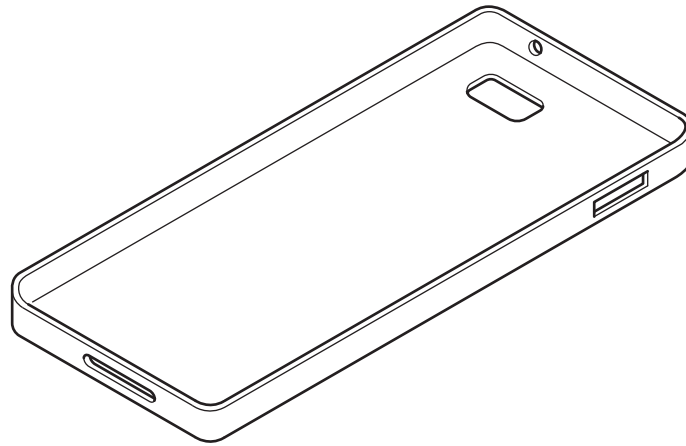

Fig. 4
- 5 Fig. 4 shows the design for a phone case that is to be mass produced.